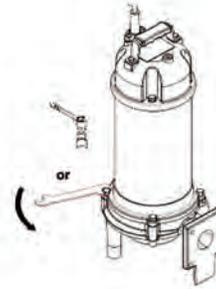
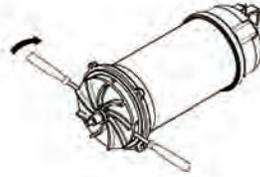

Fig. 3
Fig. 5
- 6) Remove the screws on the volute (Fig 3) dismantle the volute and use flat-head screwdriver to raise impeller slightly and remove from the shaft. (Fig 5)